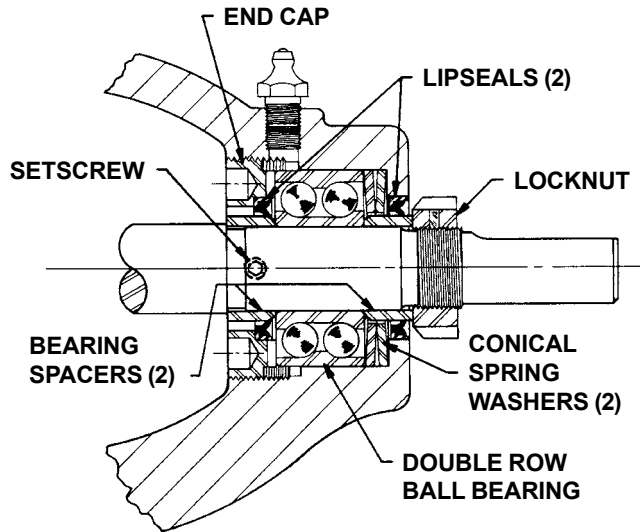

FIGURE 7
8. To remove the thrust bearing parts, **Figure 7**, first loosen the setscrew which locks the end cap. Next remove the end cap allowing ball bearing and conical spring washers to be removed. The bearings should be washed thoroughly and examined. If there is any evidence of wear or damage a new bearing should be used.
When installing new lipseals, be sure they are assembled with the lips facing as shown in **Figure 7**.
4. (Refer to Fig. 7). Place the two conical spring washers with the I.D.'s in contact, (the O.D.'s will then be separated) into the thrust bearing area of the bracket. Next place the double row ball bearing and the end cap containing a lipseal into position. Tighten the end cap by hand until resistance is felt, then tighten half turn additional.